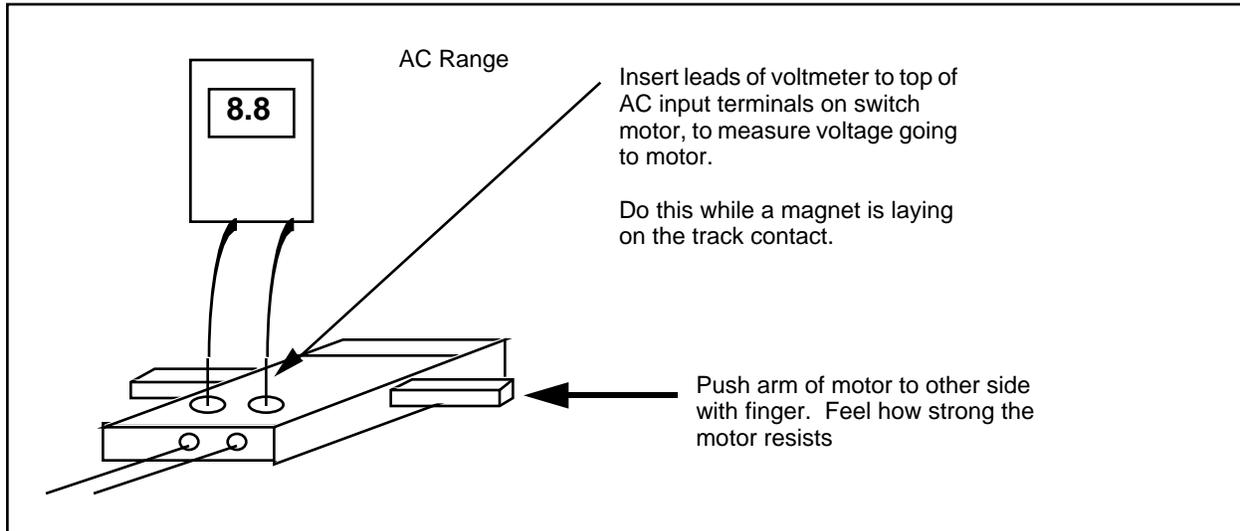

Figure 76 Measuring Voltage Drop Across Switch Motors
- With a voltage range set to the AC range, hold the two leads of a digital voltmeter down inside the terminals of the motor, as shown in the following Figure 76.